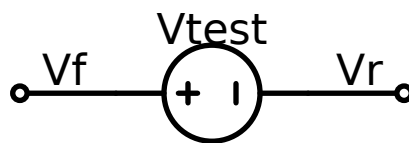
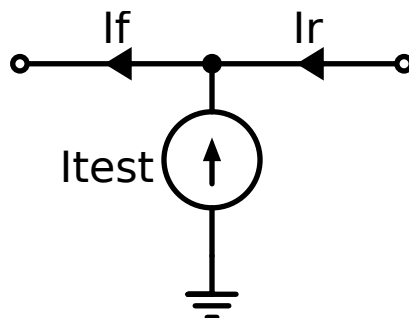

Figure 24: Middlebrook voltage loop gain simulation.
Figure 25: Middlebrook current loop gain simulation.
When we want to do a closed-loop gain analysis (for stability or other investigations), we have the need to break the loop at one point, apply a stimulus, and monitor the response on the other end. By doing this we want to keep the loading on both ends similar to the original case. To achieve this, we break the loop at one point by inserting (1) an ac voltage source, and (2) attach an ac current source, as shown in Figure 24 and Figure 25. The derivation of this approach is presented in (Middlebrook 1975), and has the big advantage that loading is not changed, and the bias points are also correct.